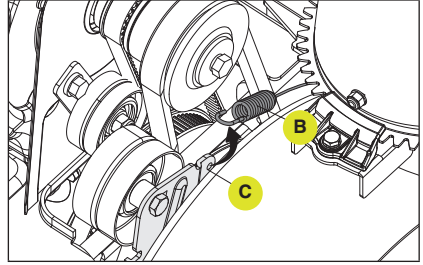

Figure 61
3. Unhook the spring (B) from the auger plate (C). (Fig. 61)